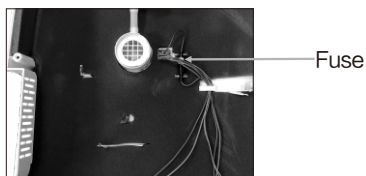

Figure 13
- Fuse tube for net power (Figure 13)